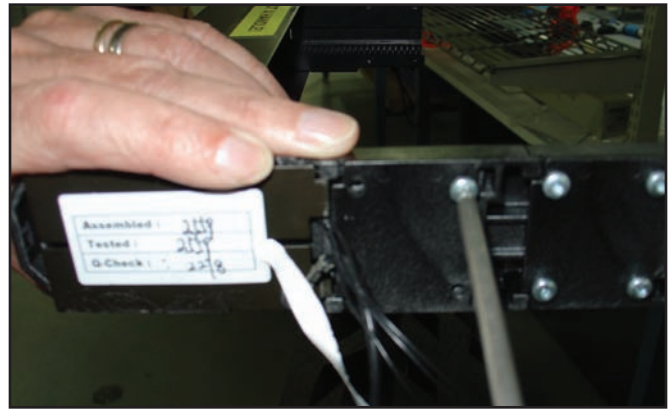

Figure 9
6. Attach bundle output unit extension to ends of arms using Torx-head screws, (see figure 9). Use caution when connecting end unit to make sure wiring fits correctly through slot in end of arm, (see figure 9, 10). Do not crimp wiring during assembly.